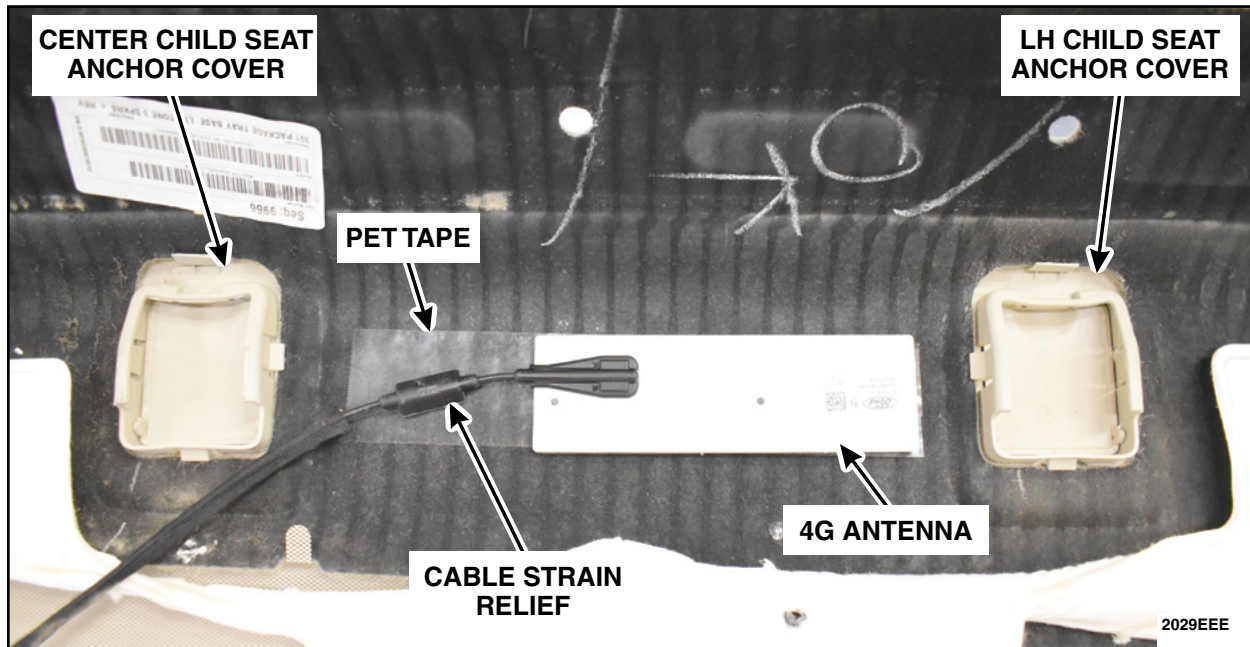

FIGURE 10
11. Install the *new* 4G antenna. See Figure 10.